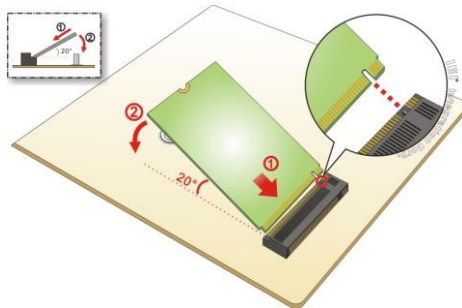

Figure 3-5: Inserting the M.2 Module
Step 3: Line up the notch on the module with the notch on the slot. Slide the M.2 module into the socket at an angle of about 20° (**Figure 3-5**).